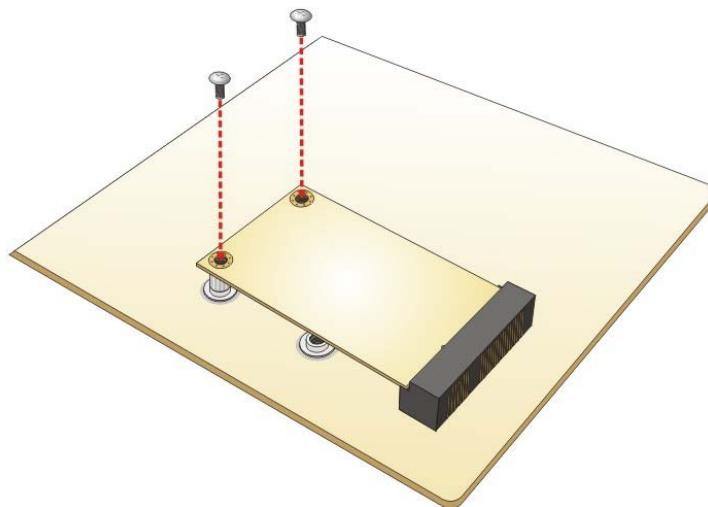

Figure 3-11: Securing the PCIe Mini Card
Step 5: Secure the PCIe Mini card. Secure the PCIe Mini card with the retention screws previously removed (**Figure 3-11**).